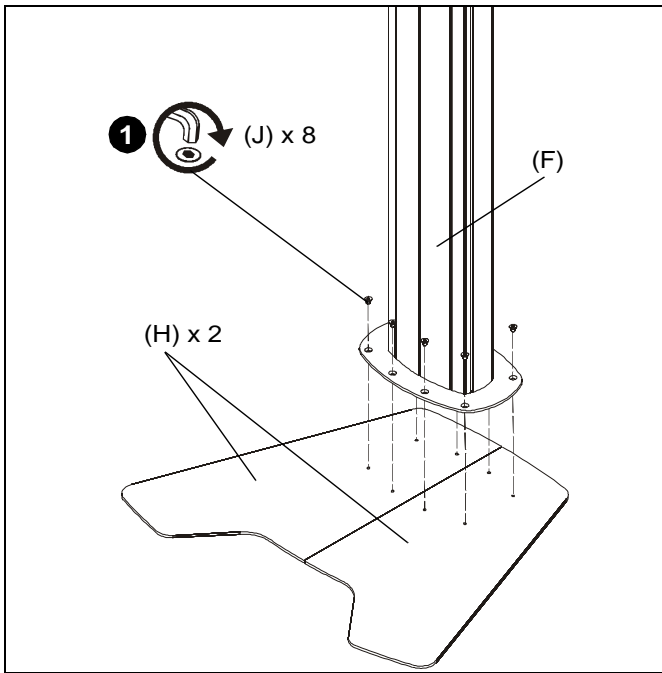

Figure 1
1. Use eight 5/16-18 x 1/2" flat head cap screws (J) to secure two base plates (H) to column assembly (F). (See Figure 1)